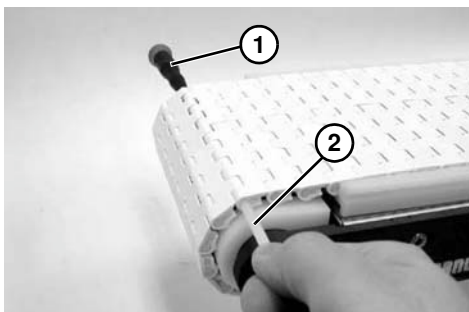

Figure 44
2. Insert screwdriver (**Figure 44, item 1**) into one side of belt, pushing rod (**Figure 44, item 2**) out. Remove rod and separate belt.